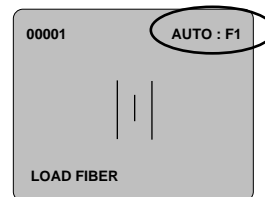

Figure 10
4.3 Check the LCD to ensure that the Automatic fusion program is selected (Figure 10). *If the set is not in the automatic mode, see step 3.11.*